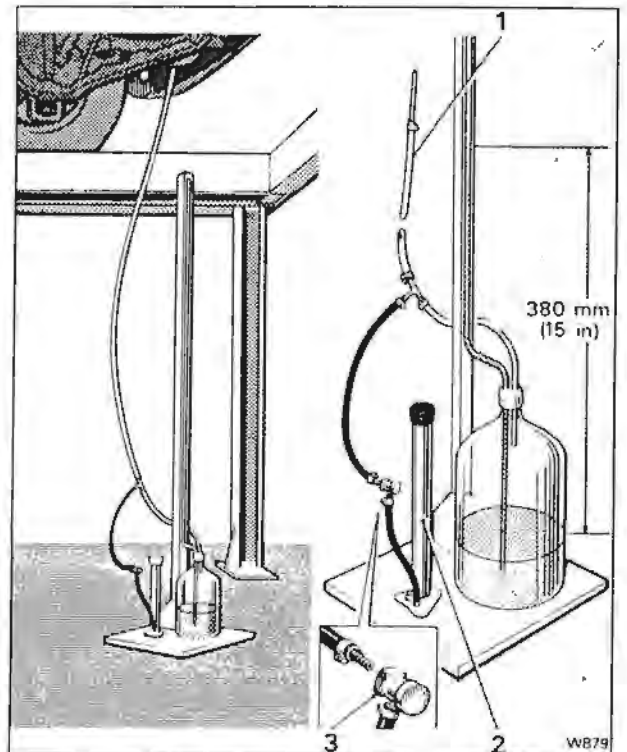

Fig. G2-5 Leak check test equipment
1. Withdraw the fuel tank hose from the canister and connect it to the test equipment shown in figure G2-5.
1. Withdraw the hose from the fuel tank side of the control valve and connect it to the test equipment shown in Section G2, figure G2-5.